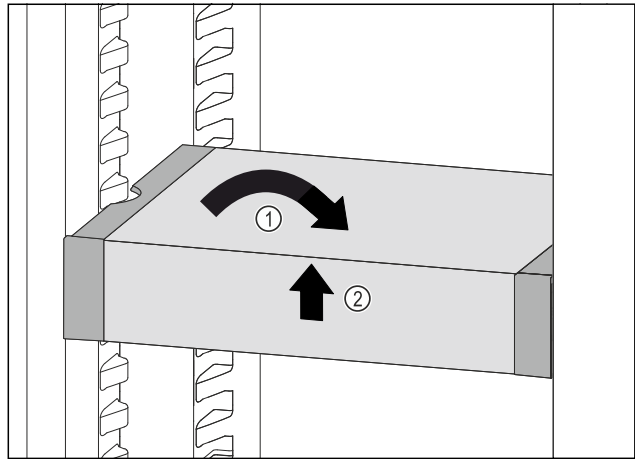

Fig. 137
- ▶ Set VarioSafe straight. Fig. 137 (1)
- ▶ Lift VarioSafe at the front. Fig. 137 (2)